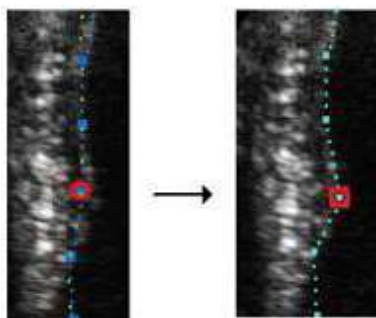

Figure 13-160. Selected anchor point on the inner border trace
2. If required, move the trackball cursor over the border trace, select an anchor point (red circle), press SET and correct the trace by dragging the anchor point to a new location (Figure 13-160 on page 13-288). The shape of the border trace will update accordingly.